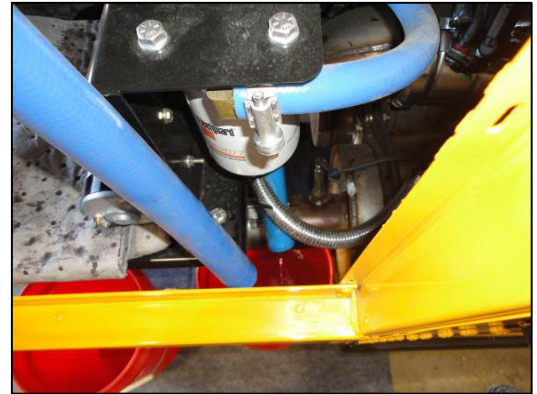

Figure 3, Drain Hoses into a Clean Drain Pan
- 3) Remove two hoses as shown in **Figure 2**. Drain the hoses into a clean drain pan as shown in **Figure 3**.